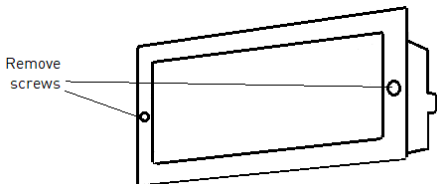

Fig. 1
- Carefully remove the fascia and glass from the luminaire housing by unfastening the two screws on the front (see Fig. 1)